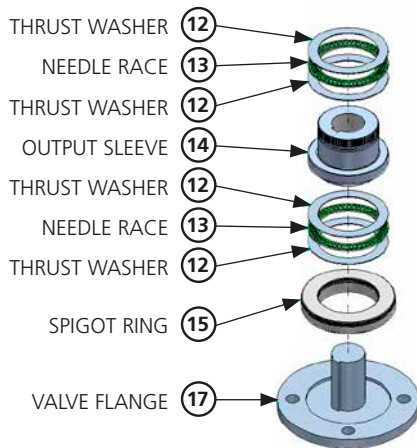
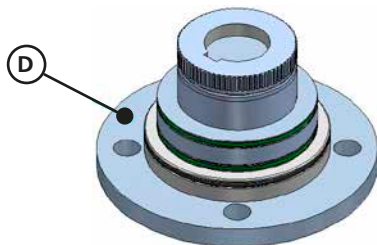

Figure 12 – Valve stem assembly
Figure 13 – Valve stem (assembled)
Check that the diameter of the male spigot supplied with the gearbox (Part 15 in Figure 12) matches the female spigot recess in the valve bonnet flange before assembling the gearbox onto the valve.
In addition to the points in Section 7.2.1, it is recommended that the machined output sleeve assembly is assembled onto the valve stem first and then the gearbox lowered onto the output sleeve assembly. See Figure 12 and Figure 13 for assembly details.
Fit the machined output sleeve (14), thrust bearings (12 & 13) and baseplate spigot ring (15) on the valve stem as shown in the Figure 12. Bearings should be lubricated with the appropriate grease (see Table 5). Grease the bearings, output sleeve and valve stem. Note that the spigot ring has an internal and external seal that should also be greased.